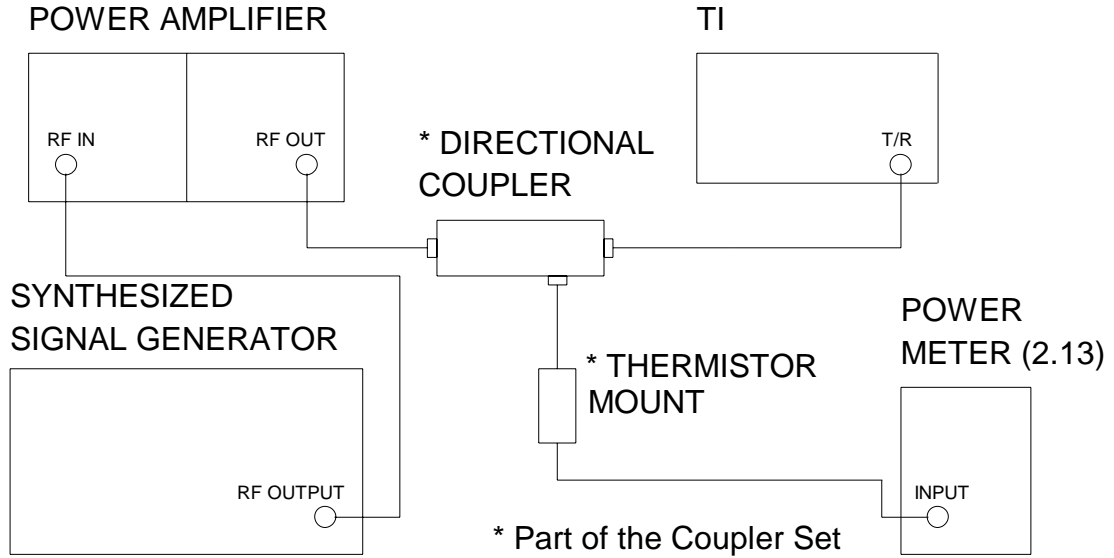

Figure 3.
4.10.1 Connect equipment as shown in Figure 3.